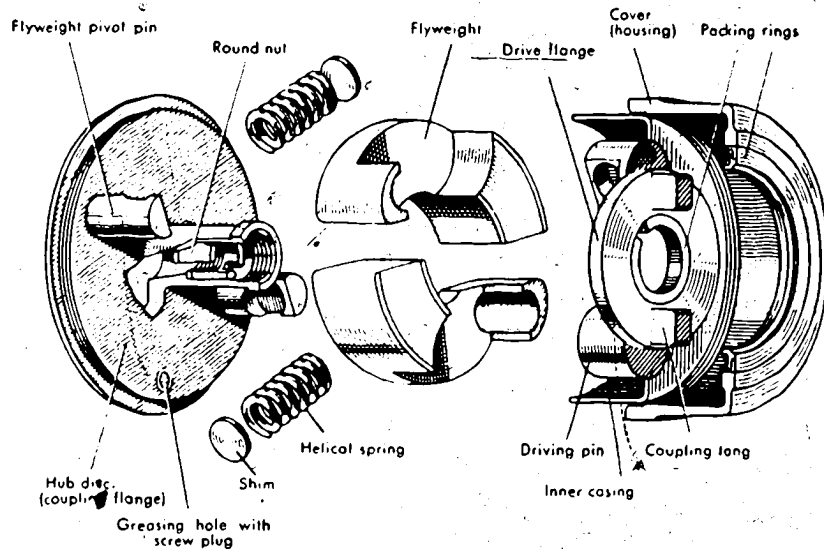

Fig. 5 Components of the EP/SA . . automatic timing device
B) Working steps for EP/SA . . devices (Fig. 5)
15. Before the automatic timing device is permanently fixed to the injection pump for service, it must be packed with grease. See Fig. 5 for greasing hole. Use 150 g of Ft 1 v 5 for timing devices with up to 10° advance range, 200 g of Ft 1 v 5 for devices with up to 20° advance range.